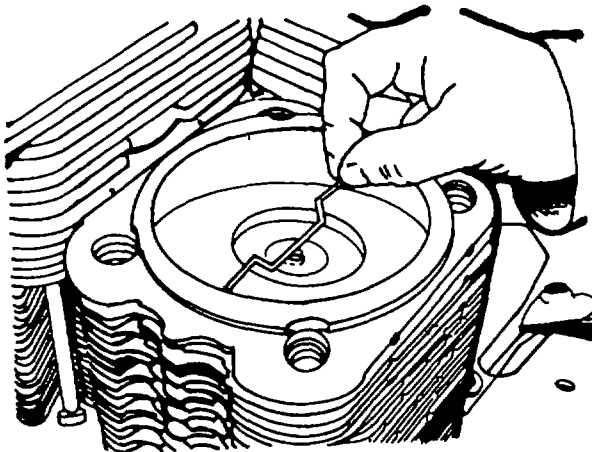

Figure 4-28. Checking Piston Crown Clearance
1. Apply grease to a piece of lead wire of 0.079-inch (2 mm) thickness and stick wire to piston crown (figure 4-28).